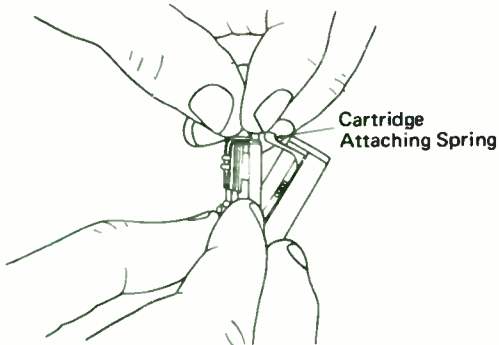

Fig. 44 REPLACING CARTRIDGE
3. Gently remove Cartridge by spreading the Cartridge Holder spring as shown in Fig. 44.